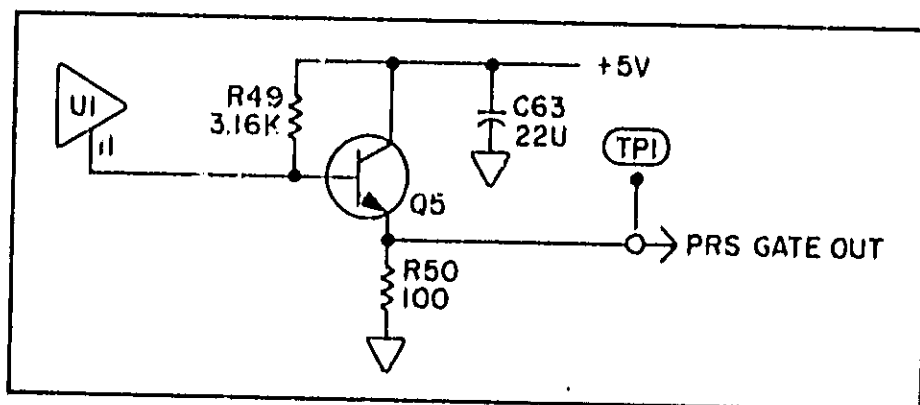

Figure 1. Emitter Follower Circuit (Part of A6)
>Add the emitter follower circuit shown in Figure 1, between U1(11) and TP1.